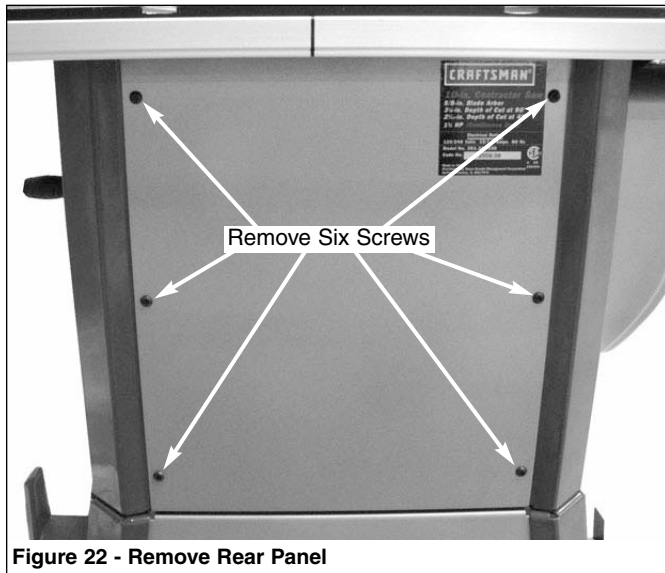
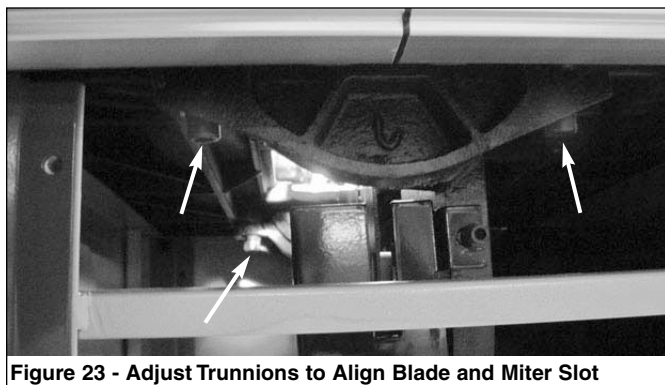

Figure 22 - Remove Rear Panel
Figure 23 - Adjust Trunnions to Align Blade and Miter Slot
- If an adjustment is necessary, proceed as follows: Loosen and remove the six socket pan head screws and the rear panel (see Figure 22). Loosen the four hex head bolts on the trunnion (see Figure 23) and shift trunnions until a position is found where the saw blade is parallel to the miter gauge slots.